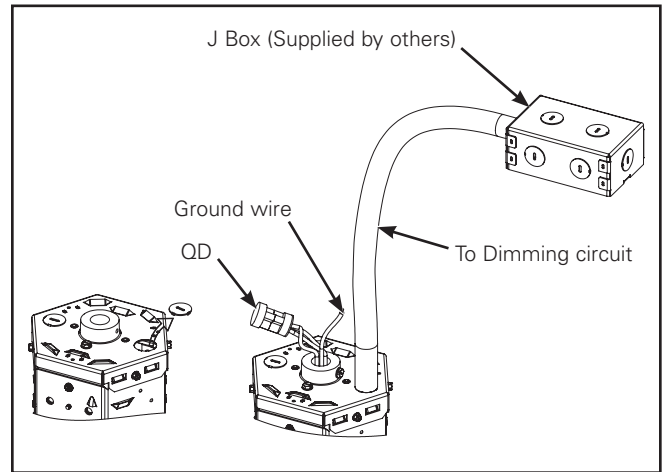

Figure 11.
3. Remove K.O. & Wire circuit through the hole (Figure 11).